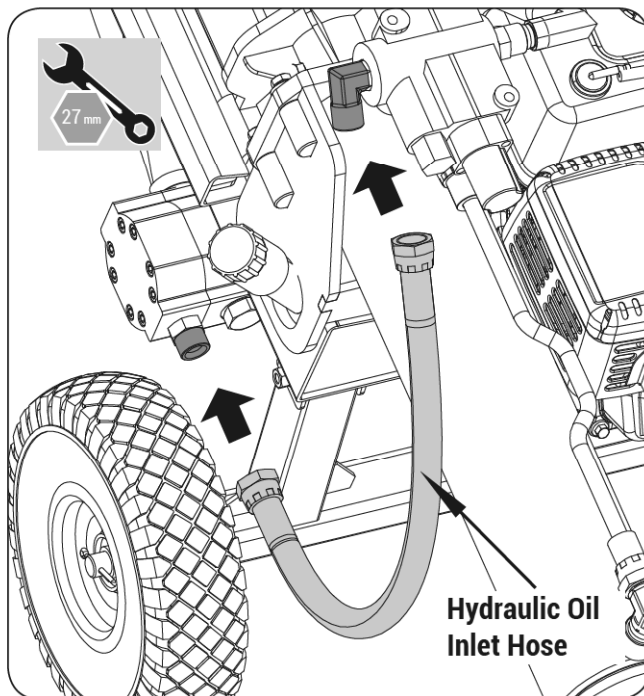

Figure 12
3. Locate the oil inlet hose. Both ends of this hose have the same fittings. Remove the plastic caps/plug from the hose and valve, then attach the hose to the pump and valve as shown. Tighten. (See **Figure 12**)